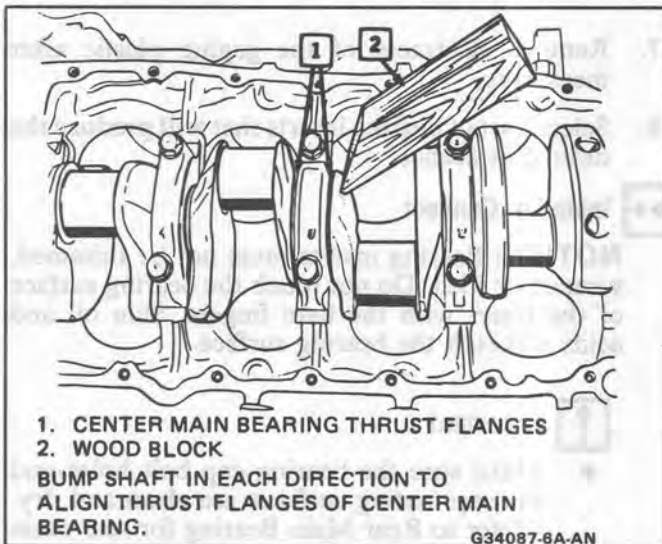

Figure 27 Seating the Crankshaft Thrust Bearing (Typical V Engine)
8. Seat the crankshaft thrust bearing (Figure 27)